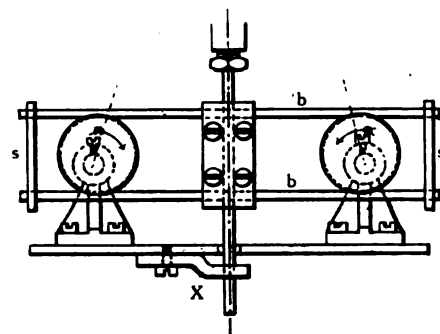
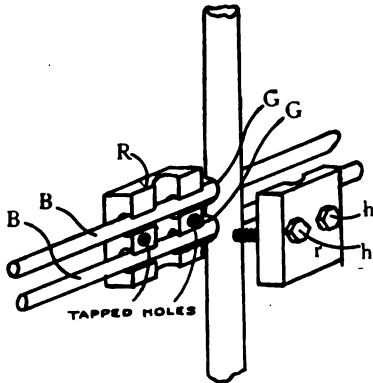

FIG. 4.—METHOD OF DRIVING VALVE GEAR.
FIG. 5.—METHOD OF SECURING PISTON ROD.
The first novel feature that will be noticed is the method of actuating two crank pins in opposite directions from one piston rod. This is effected by placing the cylinder midway between the centre lines of shafts, and by employing a crosshead sufficiently long for both crank pins to work in. Take two pieces of nickel steel round rod the requisite diameter and length, and space them apart a shade greater distance than the diameter of crank pins. Carefully measure the distance between the centre lines of each, and then mark out the two end pieces S, S; they should be of steel, and should be sweated together while the two holes are being drilled out. Fit them on at each end of crosshead rods, as shown, and hard solder them in place. It is necessary to fix this to piston-rod very firmly, and the best way to do this is shown in Fig. 5. Take a small block of steel (R), and file out two parallel grooves for the bars B, B to fit into very closely; they should stand out from the groove just sufficient for the plate *r* to get a grip on to when the screws *h, h*, are tightened up. Both plates are grooved out for the piston rod, which in turn has to be grooved at G, G, to clear the bars B, B. All these grooves should be carefully tried as the work proceeds, so that when the plate *r* is finally tightened up everything should bind together well.
The valve gear is worked in precisely the same manner as crosshead. Fig. 4 shows this. Round nickel steel rods, *b, b*, are spaced apart by the end pieces, *s, s*, and fixed to valve rod in the same manner as in Fig. 5. Each eccentric has a semi-circular groove turned in the rim, to allow *b, b* to work in nicely. The valve rod is guided by passing through a hole in the adjustable plate X.